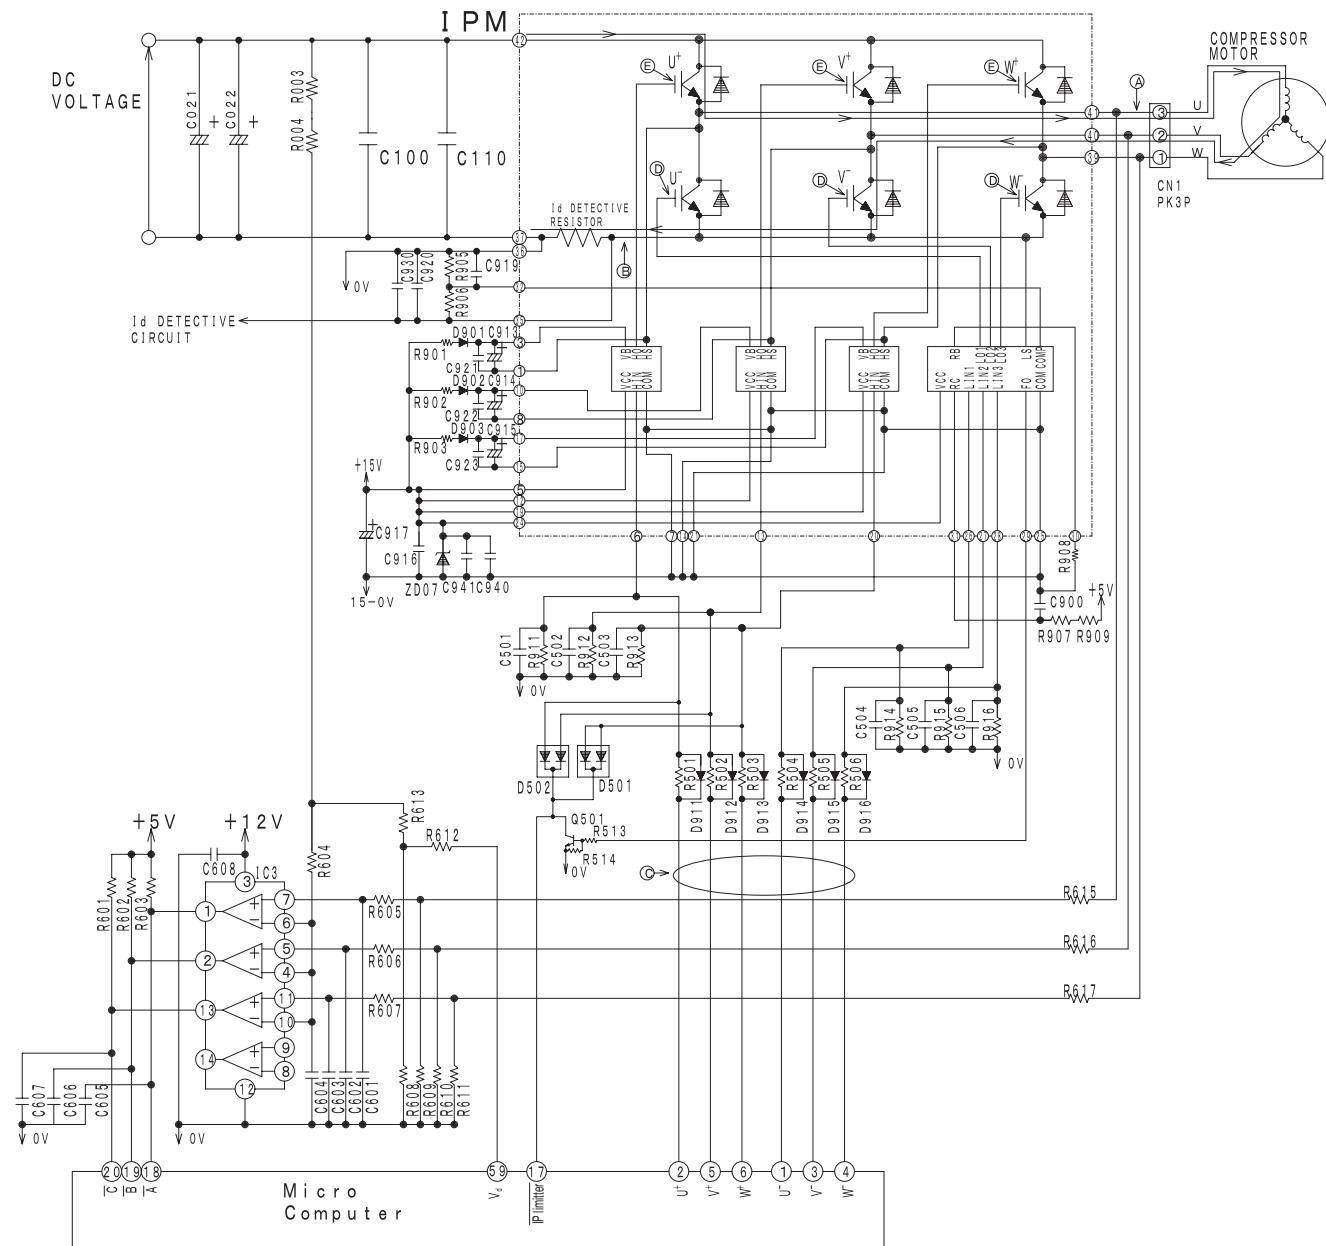
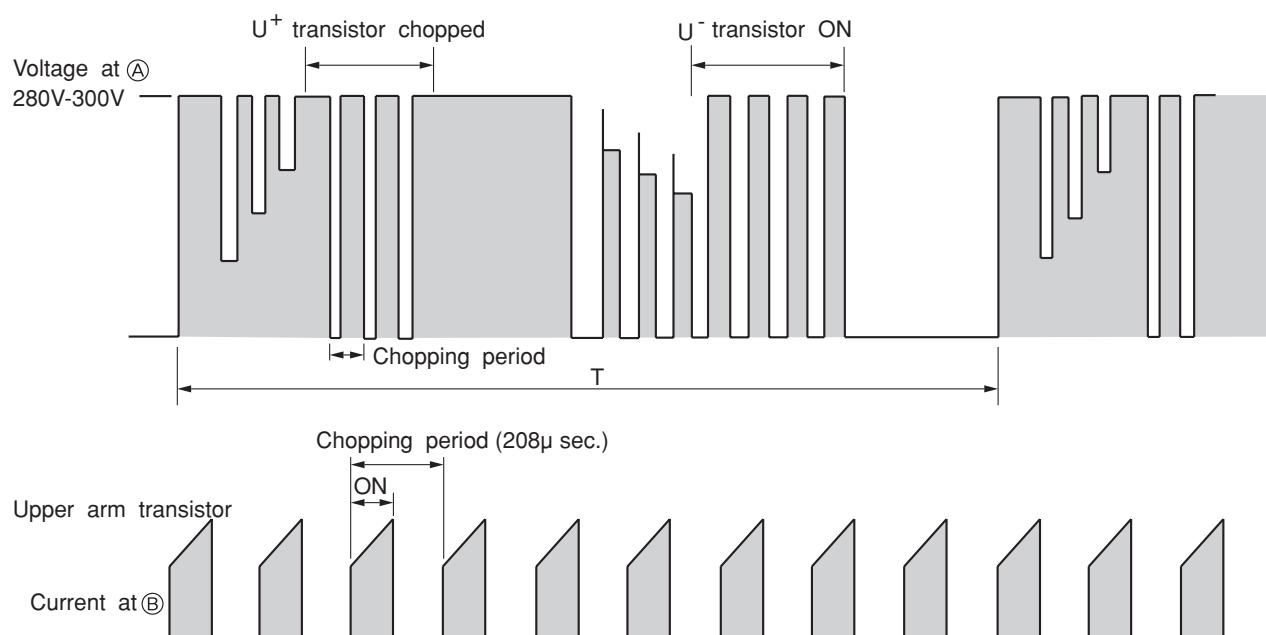

Fig. 4-1 Intelligent power module circuit (U^+ is ON, V^- is ON)
Fig. 4-3 Voltage waveform at each point
- Fig.4-1 shows the intelligent power module and its peripheral circuit. The three transistors on the positive \oplus side are called the upper arm, and the three transistors on the negative \ominus side, the lower arm.
At point ⑤: U⁺ is ON, V⁻ is ON (circuit in Fig. 4-1)
Fig. 4-3 shows voltage waveform at each point shown in Figs. 4-1 and 4-4. First half of upper arm is chopper, second half is ON, and first half of lower arm is chopper, second half is ON.
- (1) When U⁺ transistor is ON: U⁺ transistor → U coil → V coil → V⁻ transistor → DC current detection resistor → Point ② (Fig. 4-1)
Since current flows at point B only when U^+ transistor and V^- transistor are ON, the current waveform at point B becomes intermittent waveform as shown in Fig. 4-3. Since current at point B is approximately proportional to the input current of the air conditioner, input current is controlled by using DC current (Id) detection resistor.